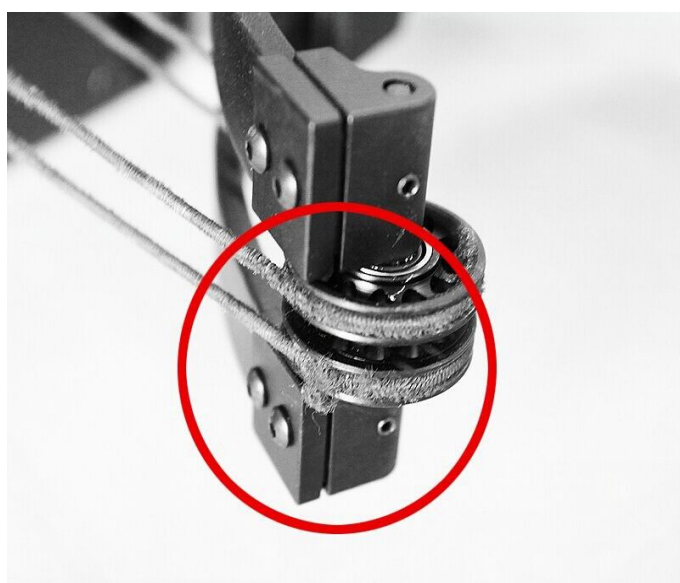

Figure.2
2. Inspect the bowstring at the points where it contacts each Pulley. If there is any sign of wear or fraying, have it replaced by a STS Crossbow Dealer or the STS factory (Figure 2).